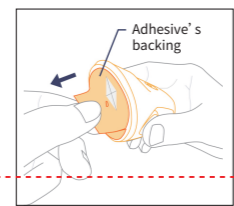

Figure 10 Pull off the Adhesive' s Backing
- Open the sterile package, take out the sensor, pull off the adhesive' s backing (Figure 10)